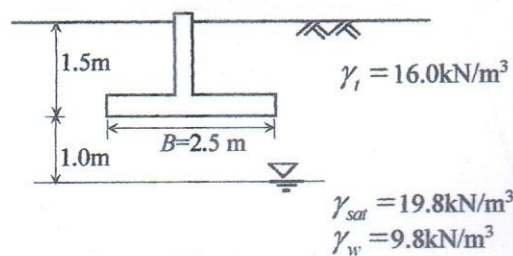

Fig.6
- 7 (a) Derive the equation of factor of safety for a slope in Fellenius Method. (15)
- (b) What do the 'short piles' and 'long piles' mean? Calculate the ultimate lateral load for a short pile having the embedment length of 8m in cohesive soil. The diameter of the circular pile is 0.5 m. Undrain shear strength is 80 kPa. The height of the line of action of the force above ground surface is 2.0m. (10)
- 8 (a) Calculate the ultimate and allowable bearing capacities for a rectangular footing (2.5m X 3.0m) placed at a depth of 1.50m for the conditions shown in Fig.6 for local shear failure, having cohesion of 100.0kN/m², and angle of internal friction of 30°. Use, FS=3.0. Use Meyerhof equations for bearing capacity factors. (15)